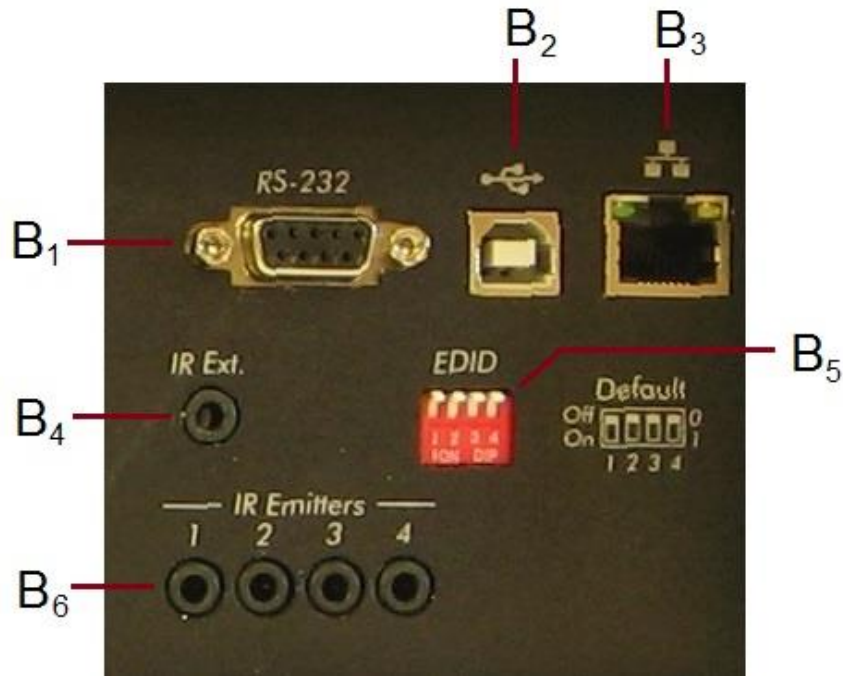

Figure 5: Back Panel, Right Side Details
- Connect IR sensors and emitters as needed. For more information, refer to Figures 5 and 6. NOTE: IR Sensor cables are equipped with a 3.5 mm stereo jack, and IR Emitter cables are equipped with a 3.5 mm mono jack.